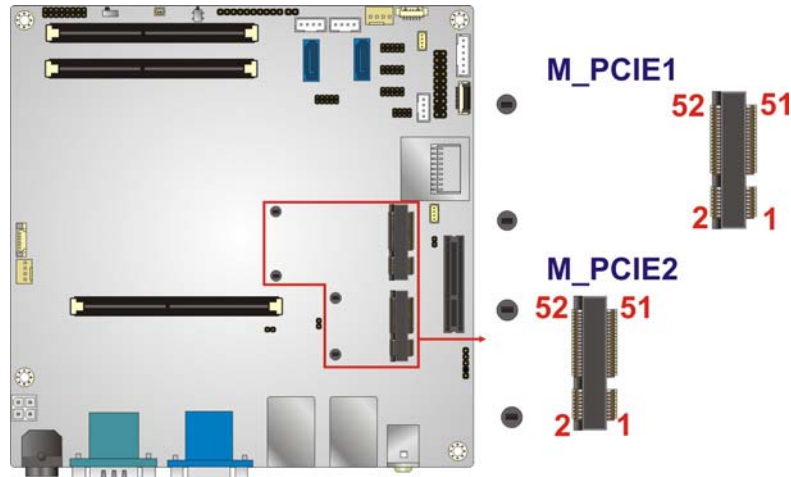

Figure 3-17: PCIe Mini Card Slot Location
**CN Location:** See Figure 3-17